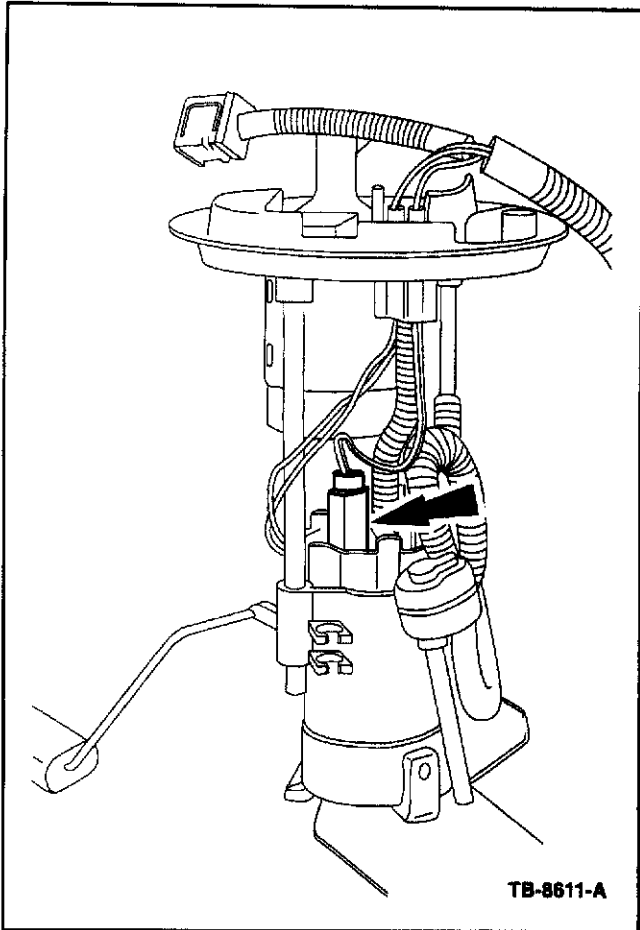

Figure 2 - Article 06-17-10
5. Detach electrical connector from fuel pump housing (Figure 2).